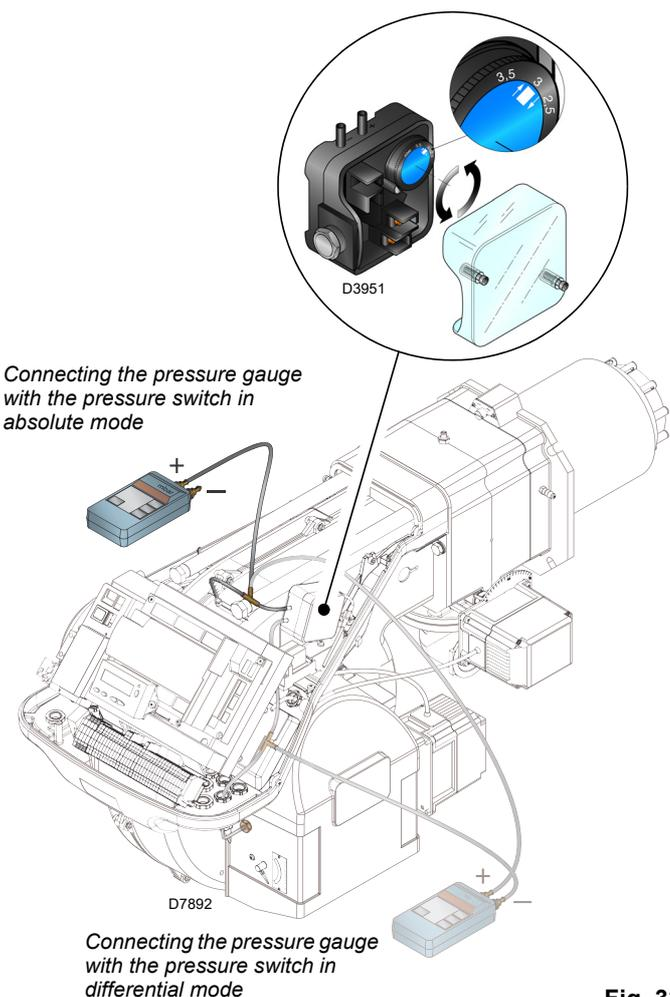

Fig. 32
- Adjust the air pressure switch (Fig. 32 at page 34) to the start of the scale.
Adjust the air pressure switch (Fig. 32) after having performed all other burner adjustments with the air pressure switch set to the start of the scale.
The connection of the pressure gauge is shown in Fig. 32. The standard configuration is that with the air pressure switch connected in absolute mode. Note the presence of a "T" connection, not supplied.
In this case also, the pressure gauge must be connected in differential mode, as shown in Fig. 32.